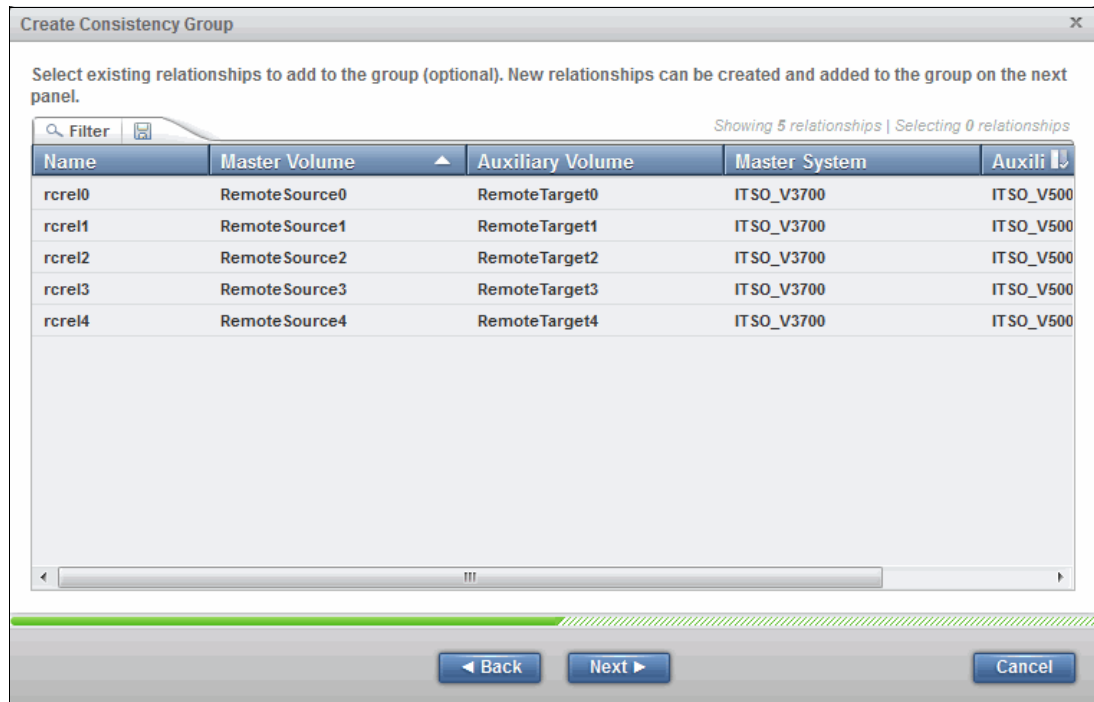

Figure 10-125 Selecting existing relationships
- However, if you choose relationships and then decide that you do not want any of them, you cannot remove them from the consistency group at this stage. You must stop the wizard and start again, as shown in Figure 10-125.